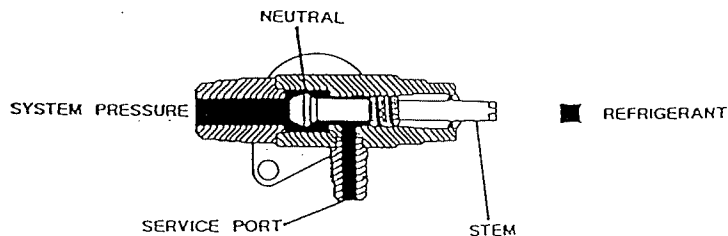

FIG.2
2. During servicing, to permit refrigerant flow to the system, compressor and the service port simultaneously the stem must be between the front seat and the back seat. (FIG.2)